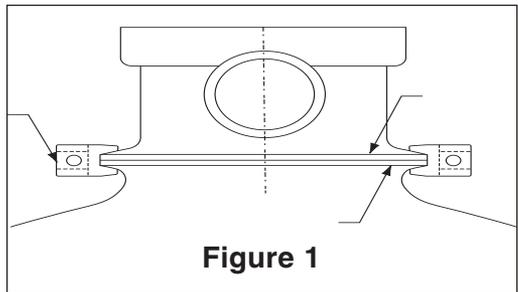
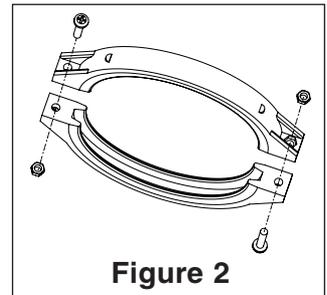

Figure 1
Figure 2
8. Ensure that the valve is firmly pushed into the top of the tank and that the flange of the tank and the flange of the valve are contacting each other. See **Figure 1**.
9. The plastic clamp can now be installed. Place the clamp half over the valve flange and the tank flange as shown in **Figure 1**. Insert the clamp screws and nuts into the clamp making sure that the nuts are located in the special hexagonal retainer slots on the clamps. See **Figure 2**.